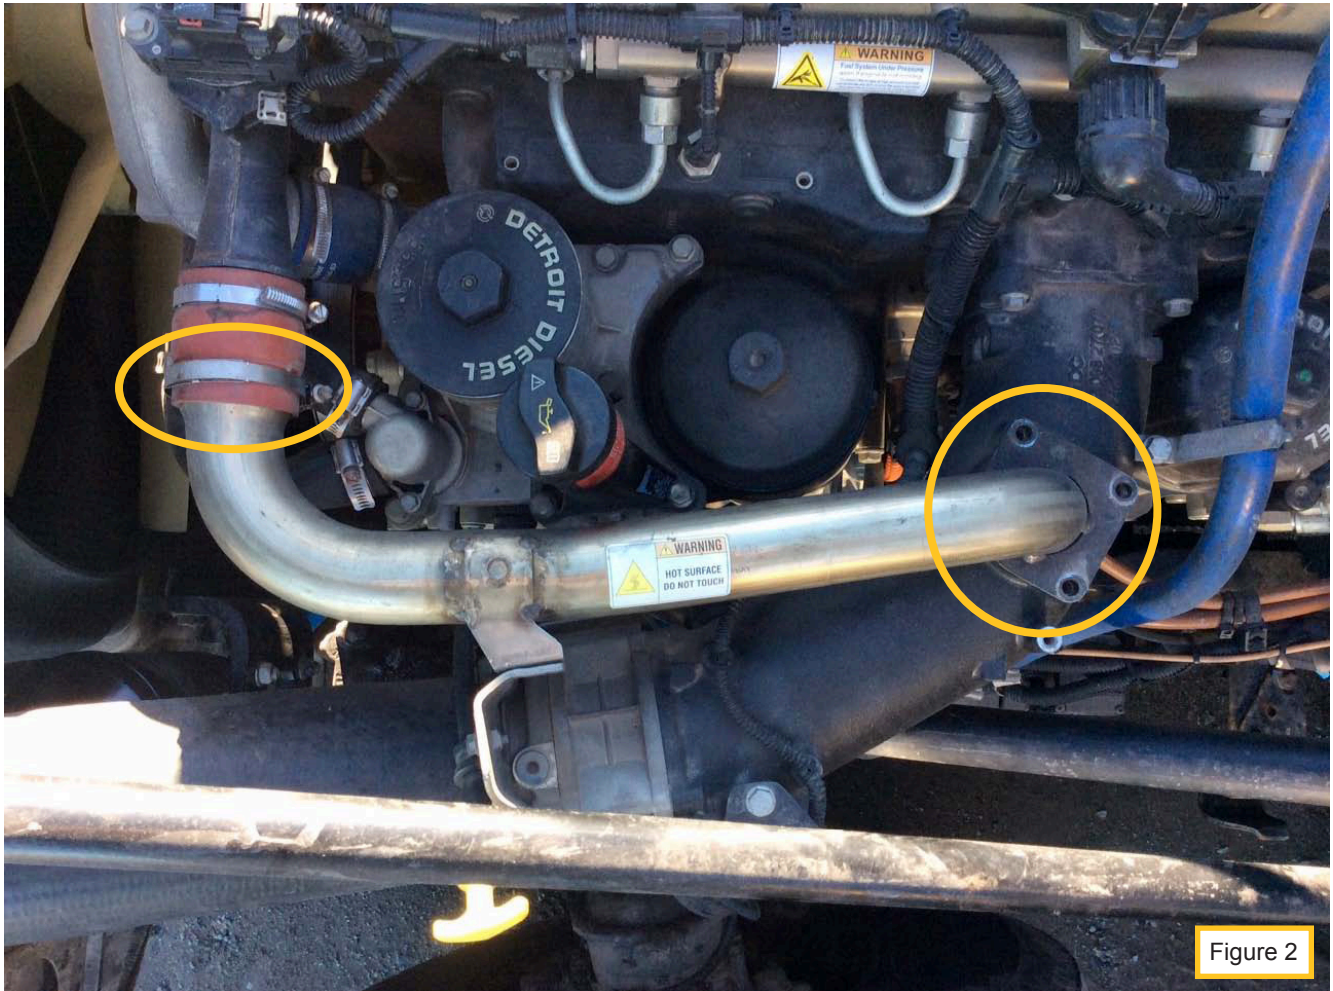

Figure 2
4. Remove the 3 bolts on the EGR cooler outlet (see Figure 2). Loosen the clamp on the rubber hose. Remove the EGR cooler outlet pipe and set it aside. The gasket on the EGR cooler outlet pipe will be used in the following steps.